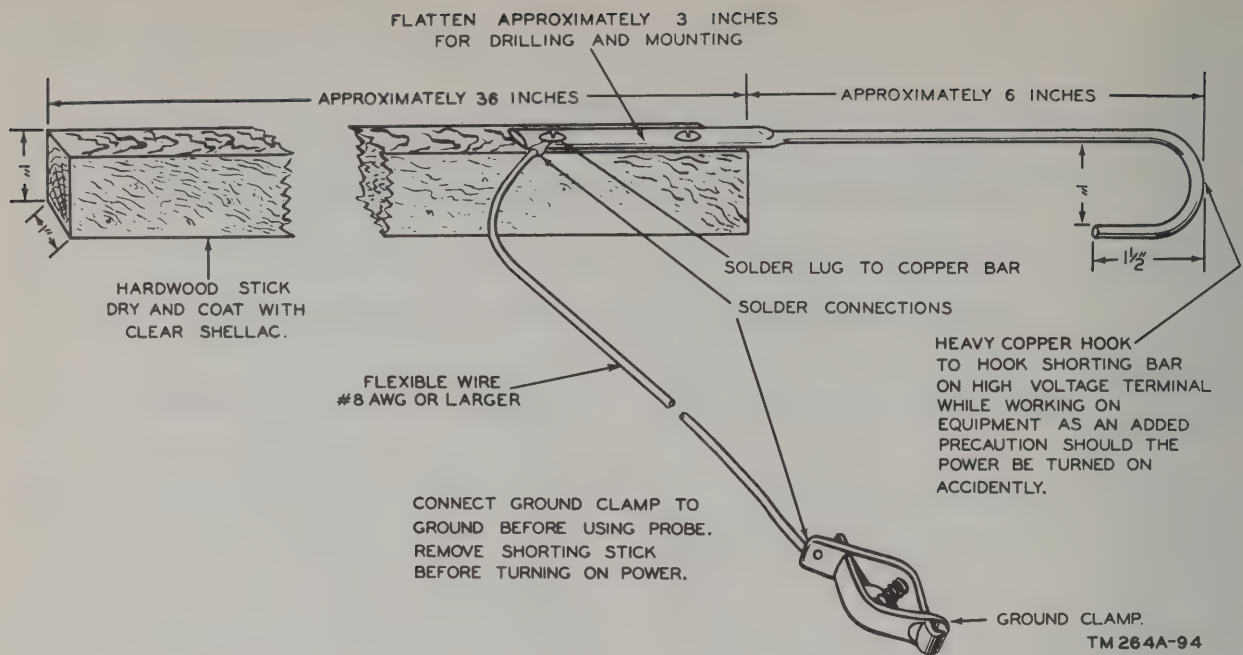

Figure 55. Construction of a Shorting Stick.
*a. Construction of Shorting Stick.* To construct a safety shorting stick (fig. 55), secure a dry piece of wood or some other material which is a good electrical insulator. It should be about 36 inches long and about 1 inch square. Securely fasten a piece of copper or brass rod (or thin tubing) to one end of the stick. Bend the extended end of the rod in the form of a small hook. Solder a piece of heavy flexible wire about 18 inches long to the metal rod at the point where it is fastened to the stick. Attach a heavy clip to the free end of the wire.